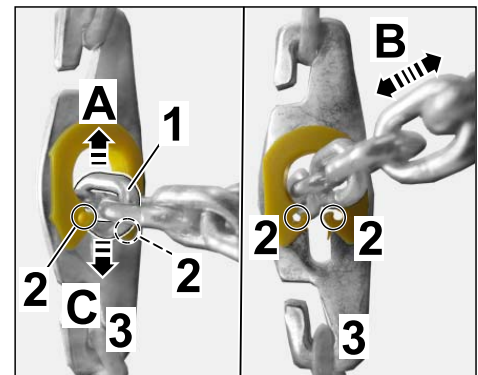

Figure 9
2.2.3 Guide chain link of the tensioning chain out of the lock in the slot on the locking plate (⇒ *Figure 9-arrow-*).